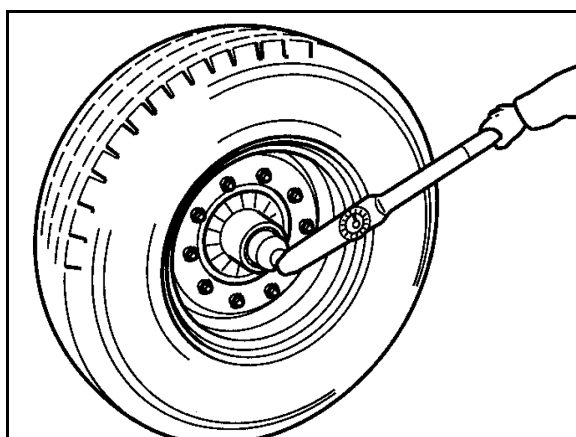

Fig. 63
1. Unscrew the two cover plates (Fig. 63/1) on the inside of the brake drum.
Dirt entering the drums may be deposited on the brake pads (Fig. 63/2) and thus die appreciably reduce brake performance.